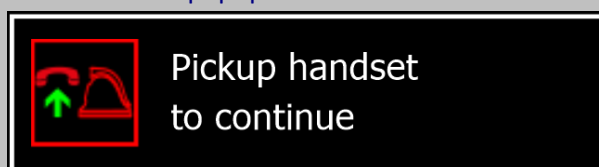

Figure 39 - Crisis EVC Network Master Station Pickup Handset Popup
1. Lift the master handset off the cradle. If not, the pickup handset popup (Figure 39) will show